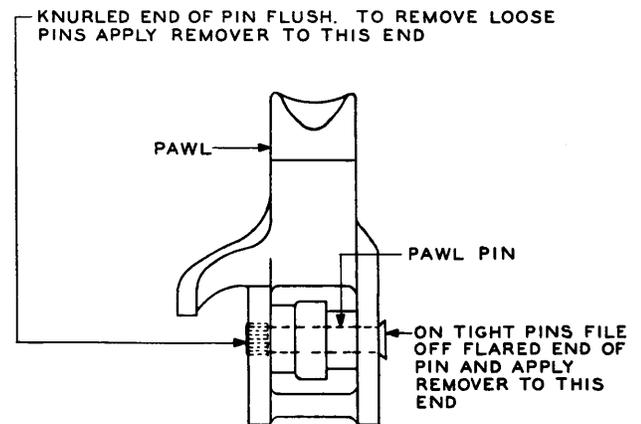

Fig. 6 – Vertical Pawl with Headless-Type Pawl Pin Having Knurl Flush at Left of Pawl
3.08 Removing Vertical Pawl Pin per Fig. 6